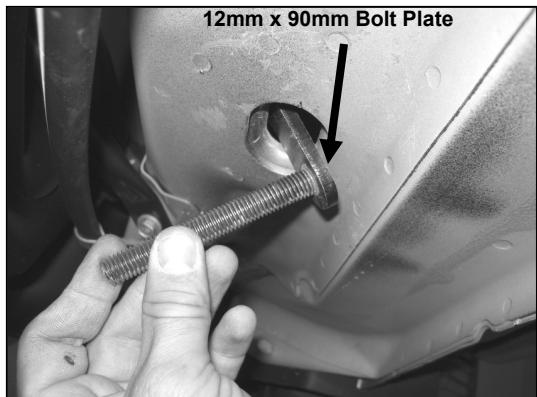

Fig 6
8. Remove the rubber grommet located in the rear floor panel. Insert (1) 12mm x 90mm Bolt Plate into existing oval factory hole (**Figure 6**).